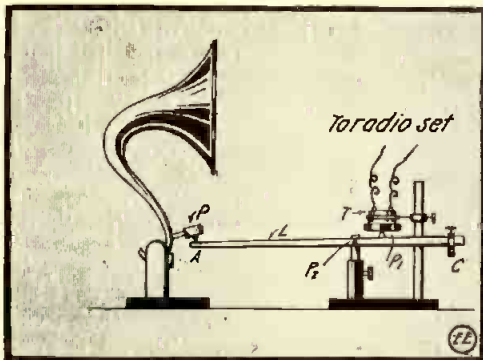

Fig. 3. Amplifying by Lever Action.
It is well to cover the mineral with oil, as depicted at Fig. 3, to keep the crystal
The old principle of unbalanced lever action is employed in the arrangement indicated at Fig. 3. In this outfit, as shown, a delicately pivoted lever L is caused to act on the phonograph reproducer stylus P, at A, whenever the opposite end of the lever P1 is acted upon by the movement of radio receiver (T) diaphragm. As is well known, if the lever is pivoted at P2, or off center, then an increased motion radius is given at A, compared to the motion radius imparted at P1, and which difference in movement amplitude is directly proportional to the ratio existing between the long and short arms of the lever L. A, C is a balance weight. The pivot P2 is movable up or down on fulcrum rod with setscrew and sleeve as indicated.